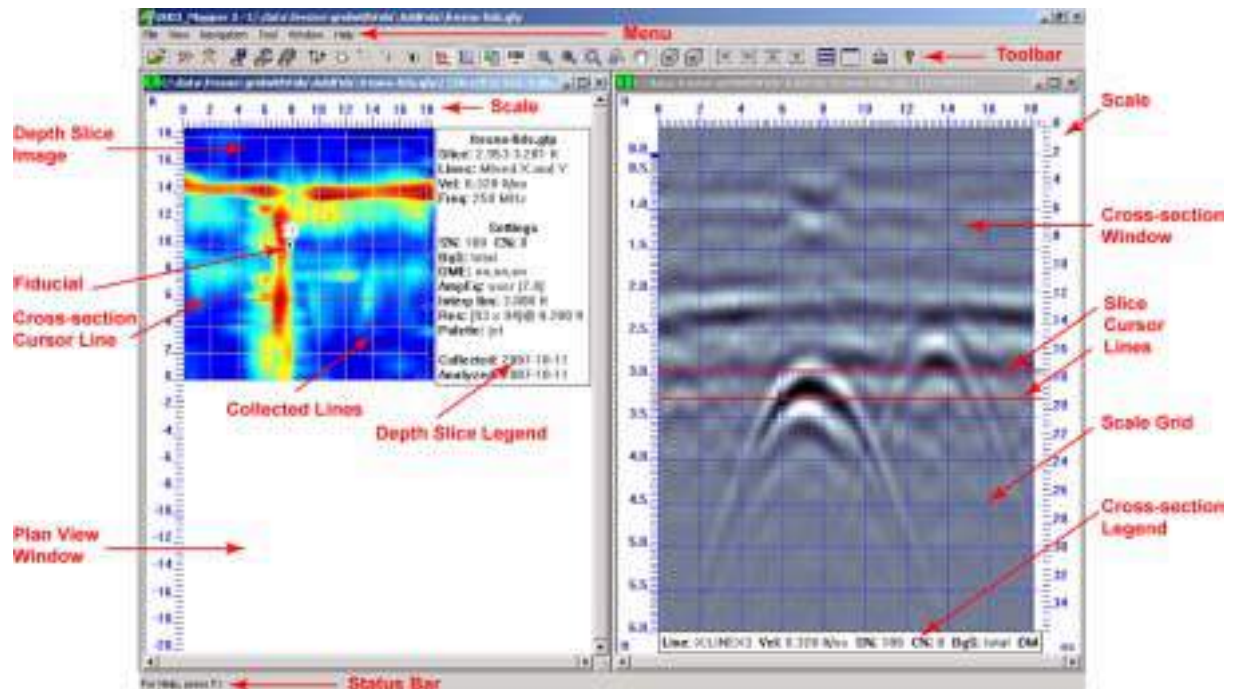

Figure 2-2: The EKKO\_Mapper main screen.
The depth range of the current slice displayed is indicated by the **Slice Cursor Lines** (**Figure 2-2**) on the cross-section. Each slice image represents the average signal amplitude of a finite **Thickness** of the subsurface.
Moving up and down through the slice image causes the **Slice Cursor Lines** (**Figure 2-2**) on the cross-section image to move up or down as well, indicating the depth range used to generate the current slice image in the plan view window.
If **Show Collected Lines** is enabled, a colored line, called the **Cross-Section Cursor Line** (Figure 2-2), will appear in the plan view window. This line shows the position, on the data collection grid, of the cross-section currently displayed in the **Cross-Section Window**.
The cross-section window displays the current cross-section image (**Figure 2-2**).
- 4) clicking on a collected line in the plan view window. The **Cross-Section Cursor Line** (**Figure 2-2**) will immediately change to that line and the corresponding cross-section will be displayed.
There are two **Slice Cursor Lines** (**Figure 2-2**) superimposed on the cross-section image. These lines represent the depth range that is being displayed in the current slice image in the Plan View window. This is particularly useful for understanding how features that appear in the cross-sections correspond to the slice images.
The Plan View Window and the Cross-Section have a legend that displays information about the plan view or the cross-section (**Figure 2-2**) images.